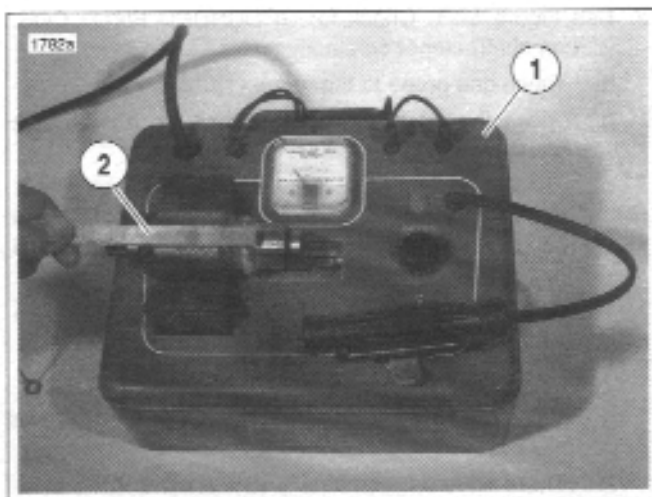
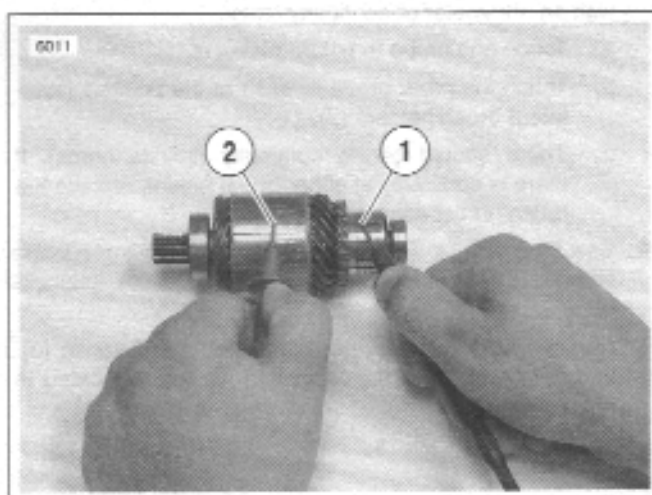
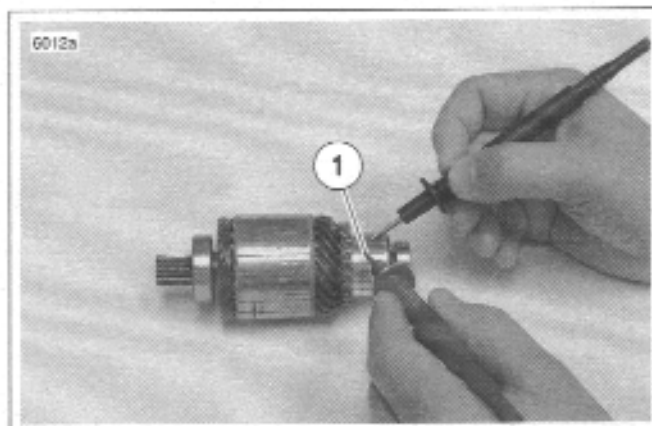

Figure 5-18. Shorted Armature Test Using Growler
Figure 5-19. Grounded Armature Test
Figure 5-20. Open Armature Test
9. See Figure 5-18. Check for **SHORTED ARMATURE** with a growler.
- Place armature on growler (1).
- Hold a thin steel strip (2) (hacksaw blade) against armature core and slowly turn armature.
10. See Figure 5-19. Check for a **GROUND**ED ARMATURE with an ohmmeter or continuity tester.
- Touch one probe to any commutator segment (1).
- Touch the other probe to the armature core (2).
11. See Figure 5-20. Check for **OPEN** ARMATURE with an ohmmeter or continuity tester.
- Check for continuity between all commutator segments (1).